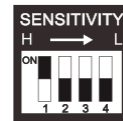

Figure 3
3. Set sensitivity ON (90%) in dip switch 1 (Figure 3). The LED indicator will turn off with no signal output.